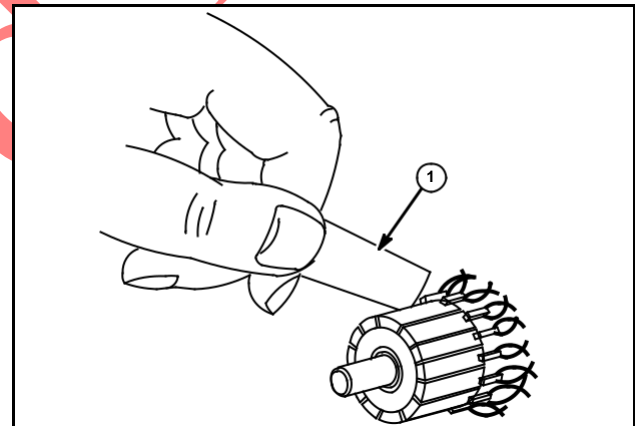

Fig. 44
7. Slots between commutator bars should be cleaned with blade (1) as shown in Fig. 44, or by using aerosol carburetor cleaner or compressed air, after sanding or machining.